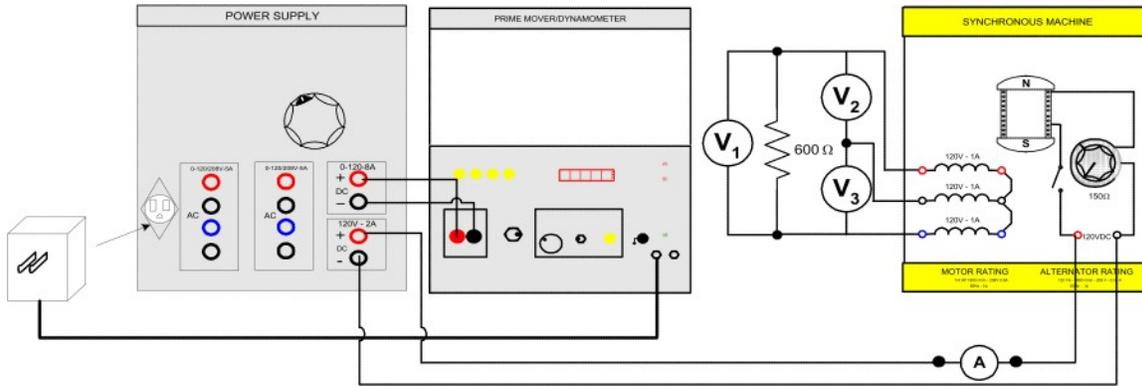

FIGURE 10.5
- Step 7: a) Connect the circuit shown in Figure 10.5. Note that only one of the alternator phases has a load.